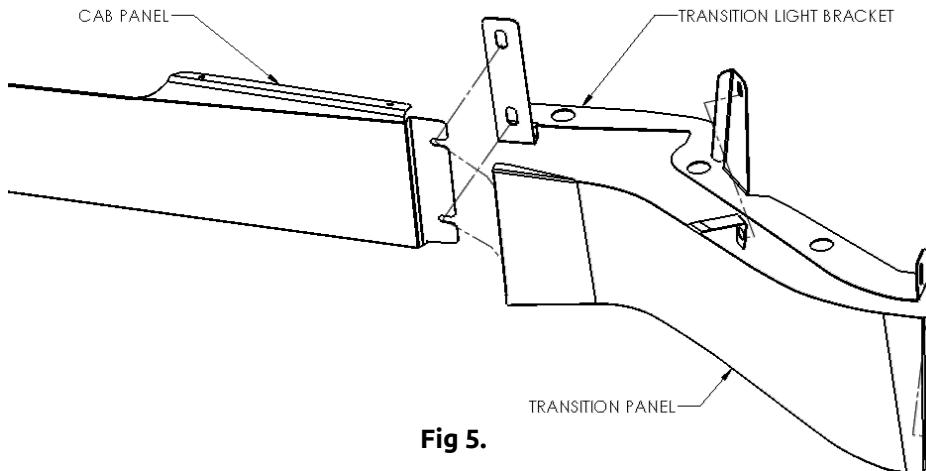

Fig 5.
- Insert (3) 10-32 bolts into drilled holes, and secure with (3) flat washer and (3) locknuts
11. Attach Transition Panel and Transition Light Bracket if equipped (see figure 5)